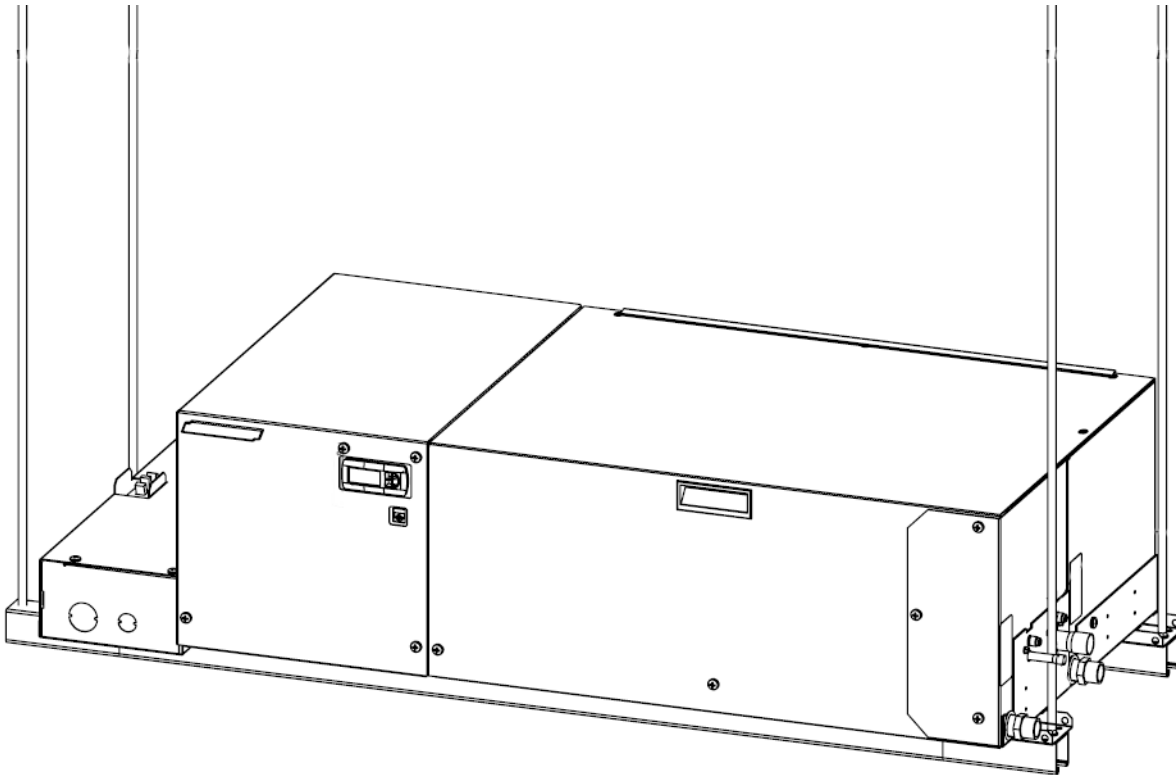

Fig. 14 Alternate SoloChill Unit Mounting Method for Walk-In Coolers/Freezers
- b. The maximum distance between the SoloChill unit and the unit cooler should be less than fifty (50) feet. The maximum distance is determined by the EEV cable length of fifty (50) feet. Consideration of distance taken up by cable routing should be included in the maximum distance between the SoloChill unit and the unit cooler.
- a. In typical installations, the SoloChill unit is installed directly onto a solid, flat structure (a walk-in roof), or possibly suspended from the building ceiling on unistrut secured by a threaded rod. (see example installation Fig. 14)